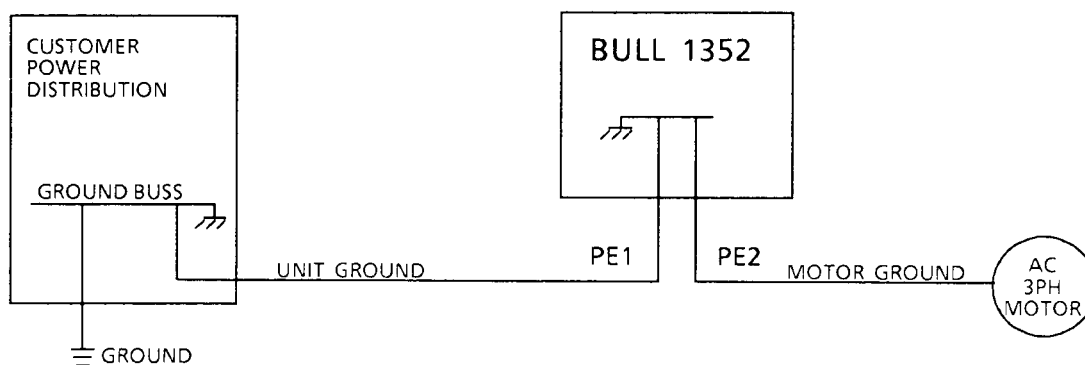
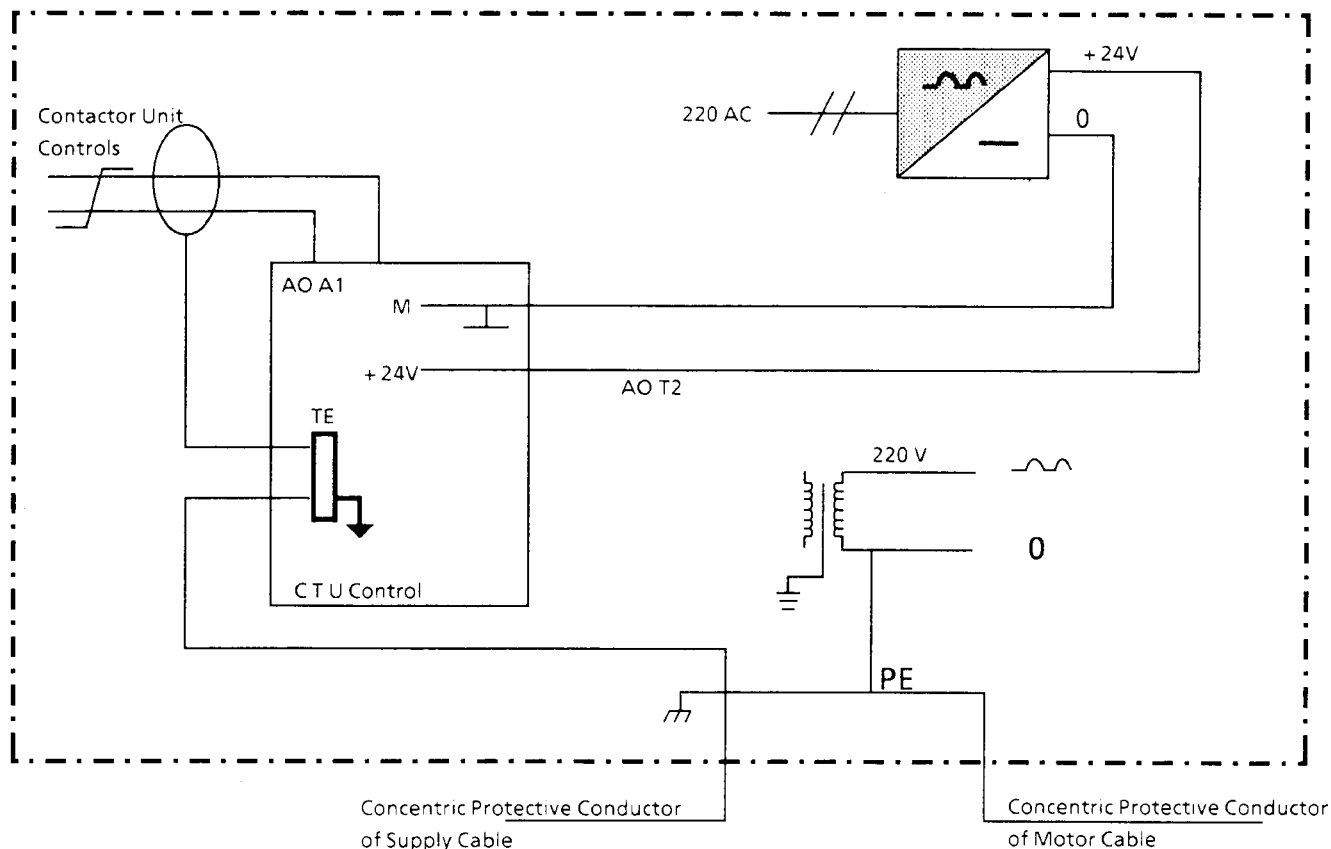

Figure 2-7. Main Circuit Grounding
Figure 2-8. Control Circuit Grounding
2.5.1 Power Wiring - The Drive requires a three-phase supply and an equipment grounding conductor to earth ground. A neutral conductor of the three-phase supply is not necessary and is usually not routed to the Drive. Three-phase wiring connects the Drive to the motor. The equipment grounding conductor for the motor originates at the Drive and connects to the motor frame. The Drive ground connects to the building ground (See Fig. 2-7).
2-5.4 Grounding - The purpose of grounding in the main circuit is to limit dangerous voltages on exposed parts to ground and facilitate overcurrent device operation under ground fault conditions. Grounding in the control circuits also provides for electrical interference suppression. The grounding in the main circuit is usually arranged as shown in Figure 2-7. A star type grounding arrangement (Figure 2-8) is desirable in the control circuits. The shields of both the control input and output cables are connected to the TE terminal of the Connection Unit (A1-U1).